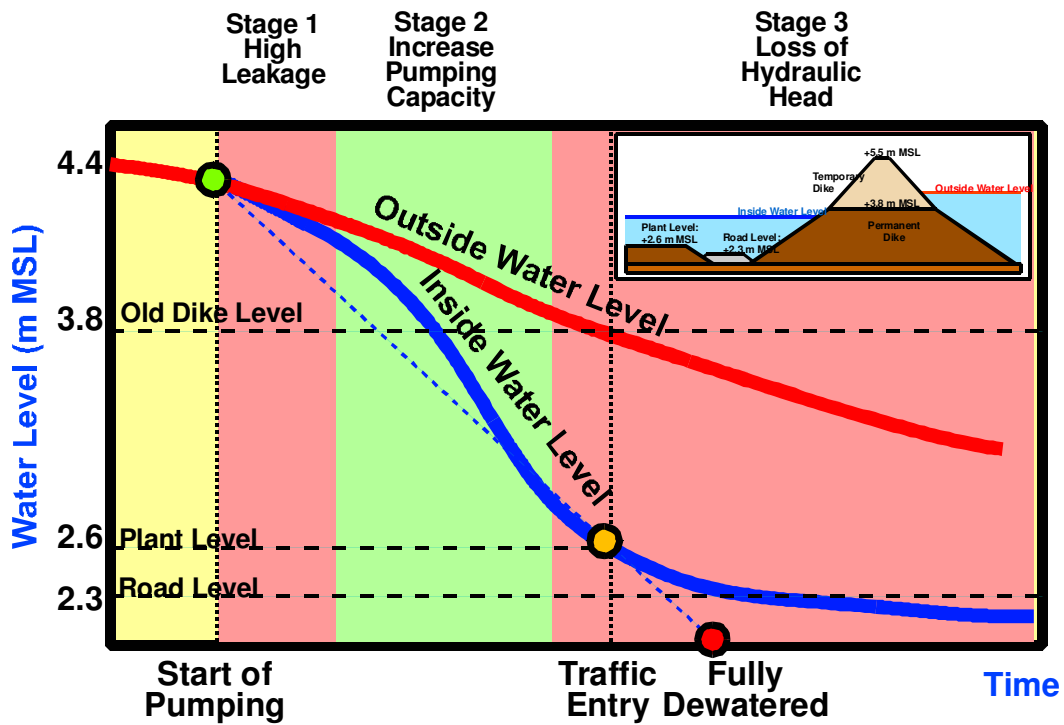

Figure 8 Expected Drawdown Time Curve
2. **Expected condition of drawdown.** A linear water drawdown within the estate will not be unlikely due to leakage through the dike at the top section (new fill) and low hydraulic head for full flow when the water reaches lower level. Figure 8 shows the possible stages of dewatering. During the initial pumping, large leakage through the new fill is expected, then the lowering of water will be low. To meet a particular target date, it may be necessary to increase the pumps half way through the dewatering process. For the low head condition in Stage 3, it will be necessary to distribute the mobile pumps over the boundaries for shortest the drainage paths which shall be discussed in detail soon.